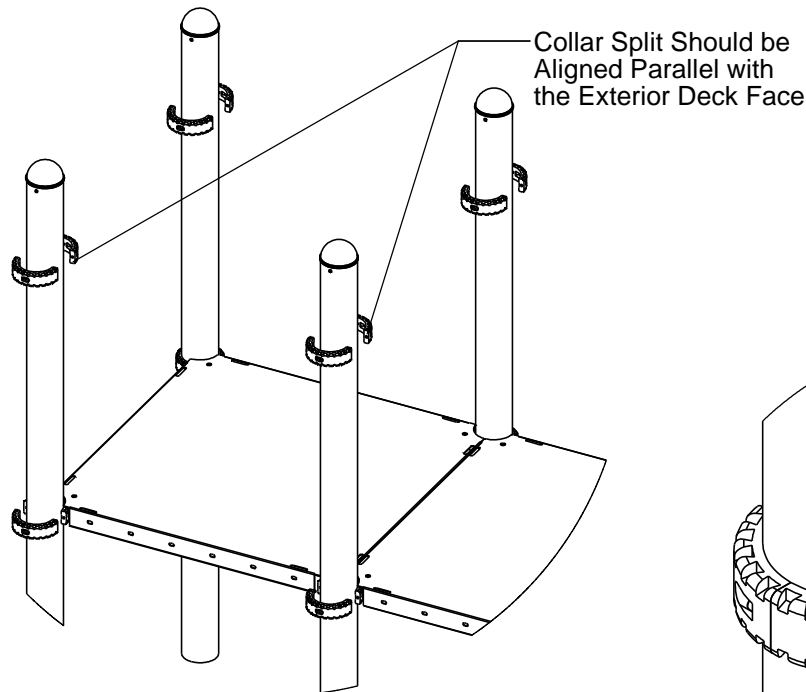

FIGURE 3
(C) The Collar splits should be aligned parallel with deck faces and should always be parallel to the collars of the same component. (See Figure 3)
Locate and mark the position of the collar on the support post, place in the correct position and attach as shown in Figure 1 using the tools shown in Figure 2. (See Figure 3 and 4 and Notes A, B, C and D)